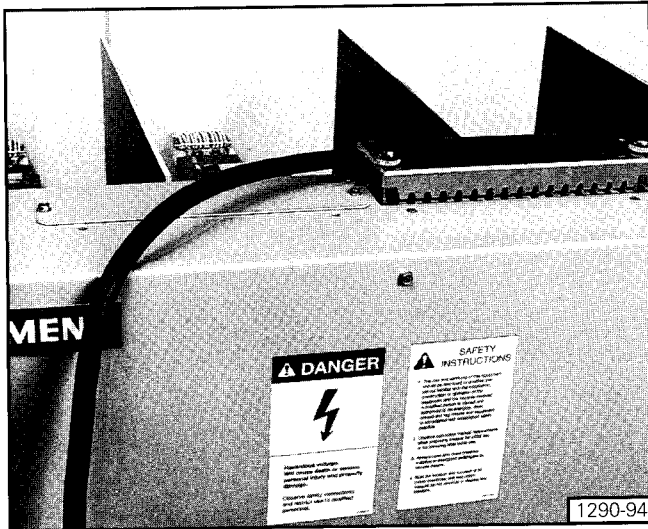

Figure 5. Split Plug Jumper Connected to Circuit Breaker
2. Install breaker end of split plug jumper (if furnished) as shown in **Figure 5** to the circuit breaker. The plug jumper is secured over the circuit breaker's secondary contacts, by means of screws.